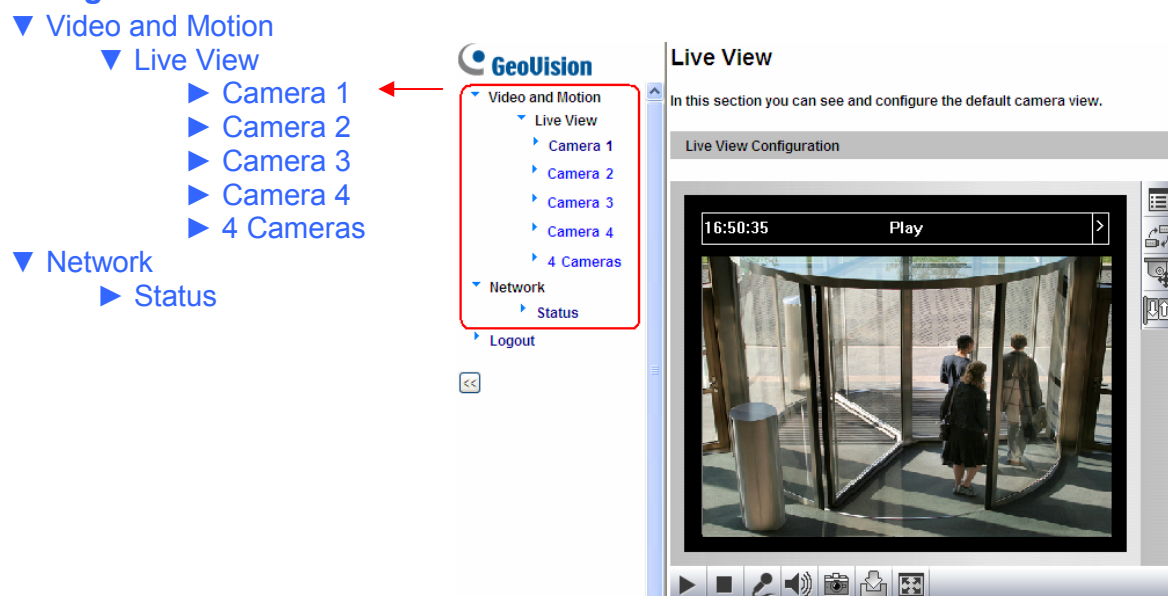

Figure 3-2 Main page of GV-VS04H in Guest Mode
4. A video image, similar to the example in Figure 3-2, is now displayed in your browser.